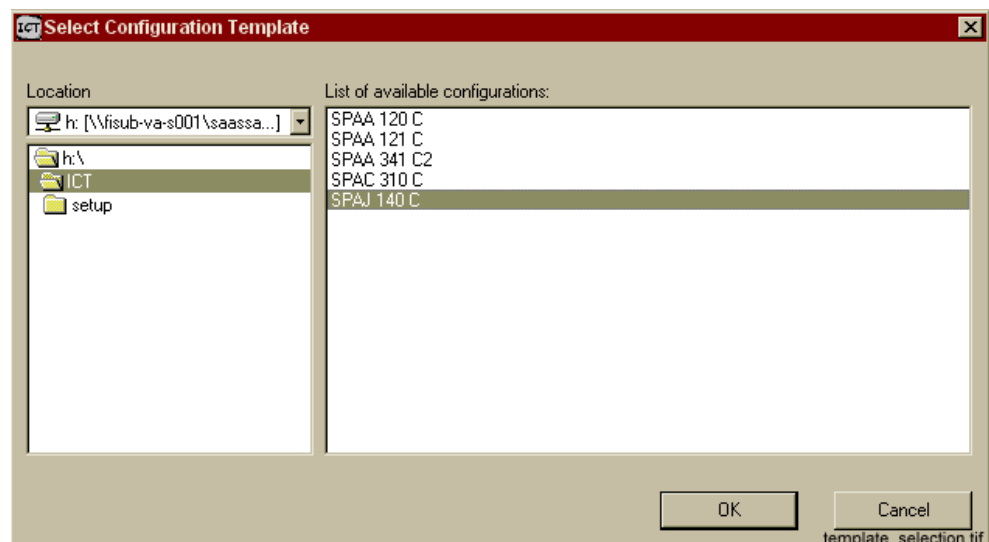

Fig. 2.5.-1 The Select Configuration Template dialogue
4. Click **OK** to open the window shown in figure 2.5.-2. In some cases an instruction window may open. If so, read the information and quit it.